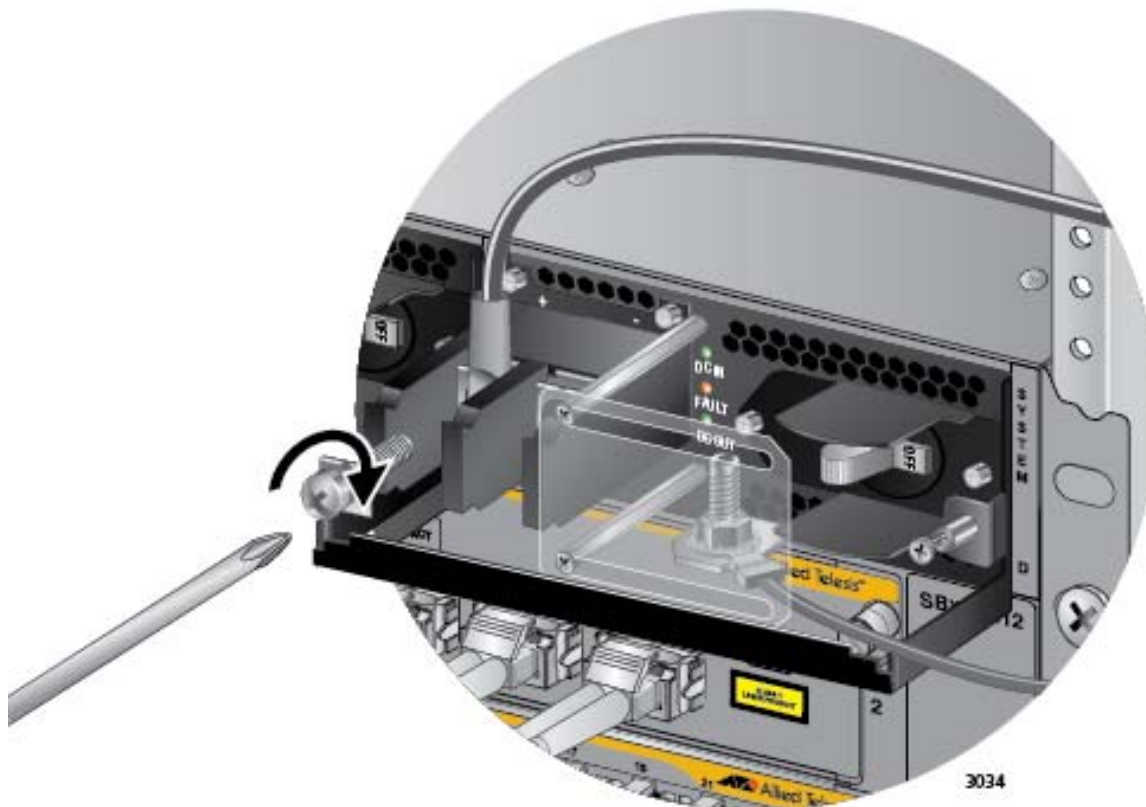

Figure 110. Connecting the Positive (+) Power Wire with a Straight Terminal
6. With a #3 Phillips-head screwdriver, connect the positive (+) power lead wire to the positive terminal on the power supply, with one of the terminal screws removed in the previous step. The positive terminal is on the left. You may attach the terminals with the wires either above or below the terminal block. Figure 110 on page 172 shows the positive wire above the terminal block.